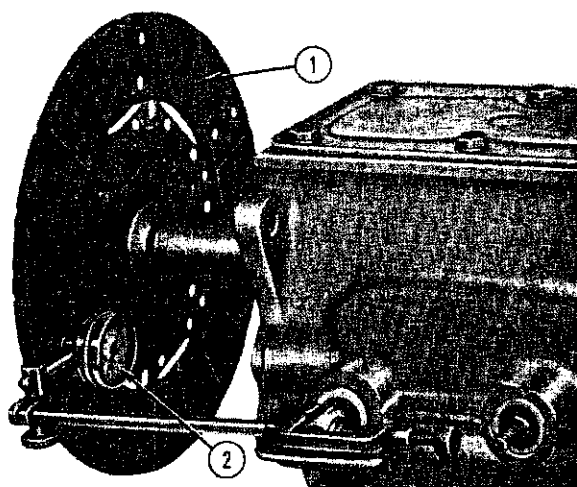

FIG. I-9—RUNOUT CHECK — CLUTCH PLATE
c. Inspect clutch release bearing for scoring or excessive wear on front contact face. Test for roughness of balls and races by pressing and turning front race slowly. Inspect main drive gear pilot bushing in crankshaft. Replace bushing if it is rough or worn. Regardless of whether the old plate or a new plate is to be installed, check the plate for runout. Slide the driven plate, front side first, over the transmission main drive gear shaft so that it is tight on the spline. Index a dial indicator to the plate facing as shown in Fig. I-9. While holding firmly against front end of main drive gear, to take up play in main drive gear bearing, slowly rotate driven plate and observe the amount of runout shown by indicator. If runout of front facing exceeds .025" [0,635 mm.], replace the plate. It is not practical to correct excessive runout by bending.